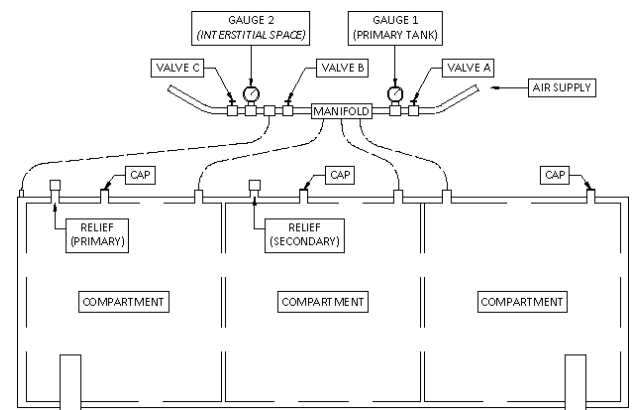

FIGURE 3.5.8
3.5.4 Once the individual compartments have been tested and have passed, the tank should be configured as shown in Figure 3.5.8 to allow the tank compartments to be pressurized simultaneously, and then to allow the pressure from the primary tank to be transferred to the secondary tank.